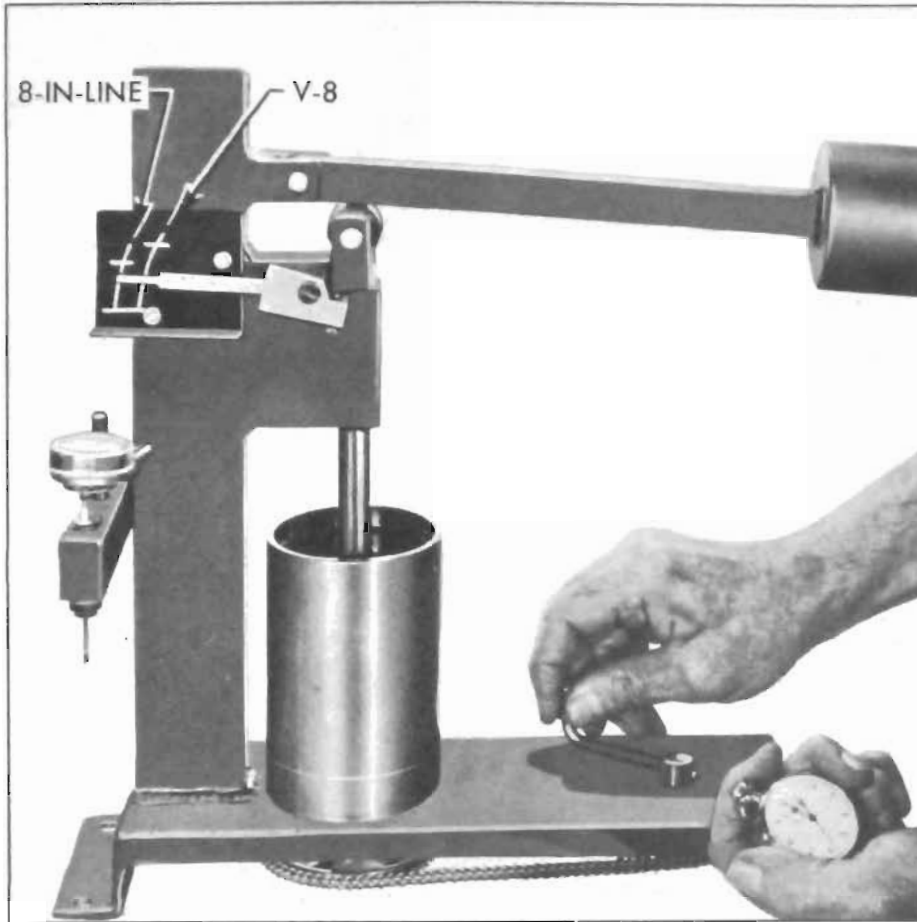

Figure 2-73—Checking Lifter Leakdown Rate
4. Lower the ram to rest in the lifter push rod seat, then lower the weight arm to rest on the roller of ram as shown in Figure 2-73.
2. Turn camshaft so with sprocket temporarily installed, timing mark is straight down. See Figure 2-73. Remove sprocket.